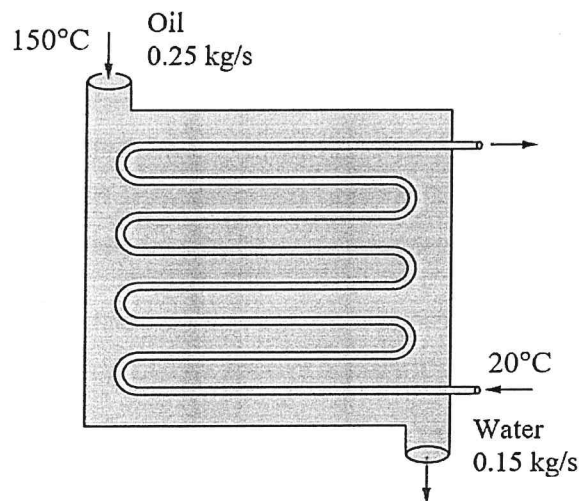

Figure 6: 1-shell and 8-tube-passes heat exchanger
*Refer Below - Figure6 : 1-shell and 8-tube-passes heat exchanger .*